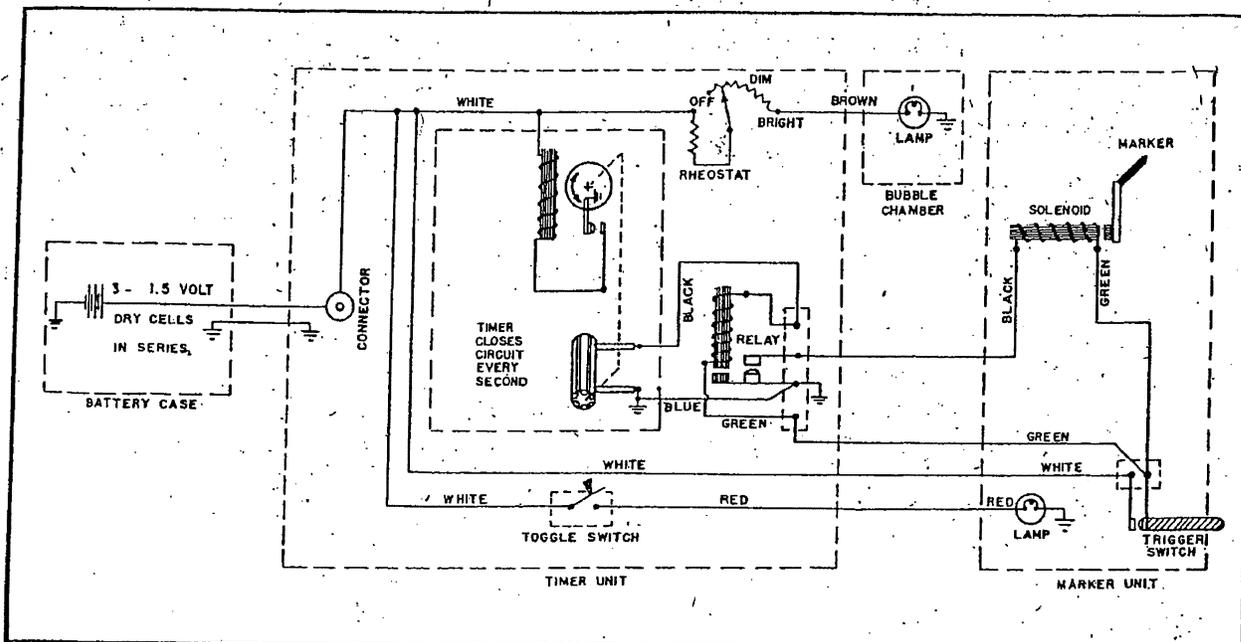

Figure 14—Wiring Diagram
(1) GENERAL.—If the bubble chamber is removed or replaced without optical calibration, there is a possibility of a change in index error which may amount to from 15 to 25 minutes. Pending complete adjustment at a maintenance depot, the new index correction should be obtained as soon as possible. If no natural horizon, such as exists on the sea, is available for reference, the following methods of obtaining this correction are suggested.
(2) DAY OBSERVATIONS.—Make at least twenty observations of the altitude of the sun, and note the time of each observation. Plot the observed altitudes against time, and on the same sheet plot the computed altitudes of the sun for that same period of time. Then draw smooth curves through the two series of points; the vertical distance between the curves is the index correction.
(3) NIGHT OBSERVATIONS.—Observe the altitude of a number of different stars of various altitudes and compare these values with the computed values obtained from the navigation tables. Average the differences between the two sets of readings; this average is the index correction.
d. ELECTRICAL SYSTEM. (See figure 14.)—The wiring of the electrical system can be checked by referring to the wiring diagram.
(1) PRISMS.—Turn the control knob until the counter reads 00 degrees and carefully snap off the shade by pushing up on it while slowly rocking it from side to side. Then turn the control knob to 90 degrees and clean the field prism and the fixed prism with light tissue or a well-washed, clean pocket handkerchief. When replacing the shade, insert it between the fixed